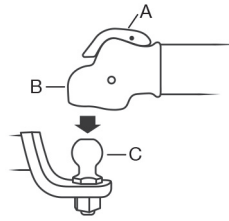
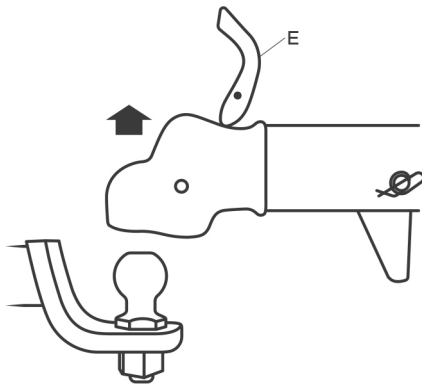

Figure 1
Figure 6
Check that coupler release-lever (A) is in fully down position. Lower the coupler (B) onto the hitch-ball (C) as shown. (Figure 1) The coupler should snap onto the hitch-ball securely.
Raise the coupler release-lever (E) to a vertical position. (Figure 6) If release-lever will not raise with normal hand effort; push rearward on the tow dolly, or drive forward slightly, until release-lever will raise by normal effort. Next, grasp the tow dolly tongue handle and lift the coupler completely off the hitch-ball, then carefully lower the tow dolly tongue to the ground. Lower the release-lever to fully down position when finished. (See Figure 1)